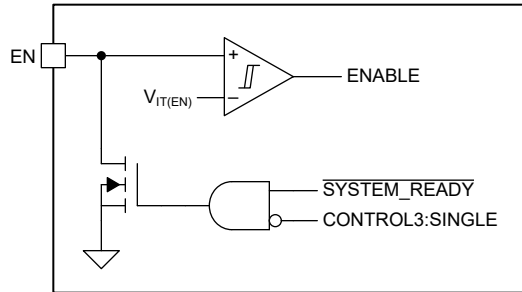

Figure 7-9. Enable Functional Block Diagram
The Enable (EN) pin is bidirectional and has two functions. See Figure 7-9: